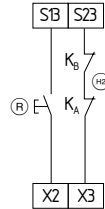
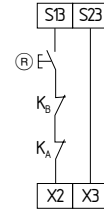

Fig. 3
Fig. 4
Dual-channel control, shown for a guard door monitor; with two contacts A and B, where at least one is a positive break contact; with external reset button (R) (see Fig. 3)
- (HE) = Feedback circuit
External reset button with edge detection (see Fig. 3 and Fig. 4)